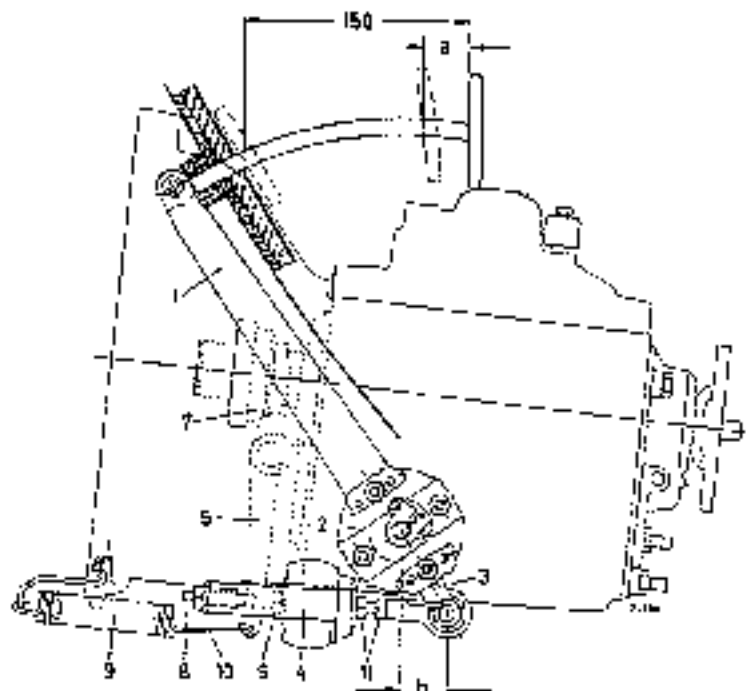

Fig. 29-5/4
12. Slide the relay lever (3) on the splines of the pedal shaft and check the position of the relay lever. The distance from center ball of the relay lever to center clutch pedal shaft should be "b" = 32 ± 4 mm in the case of Models 180, 180 D, and 190 SL and "b" = 29 ± 4 mm in the case of Model 220 a. The clutch pedal (1) should always rest against the rubber stop. The distance "b" can be varied by changing the position of the relay lever (3) on the splines of the clutch pedal shaft (see Fig. 29-5/4).